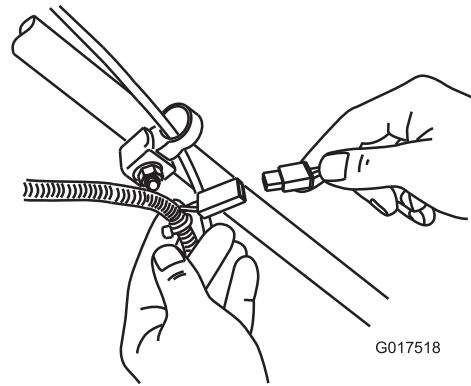

Figure 36
1. Connect the charger to the wiring harness, which is located below the ignition key (Figure 36).